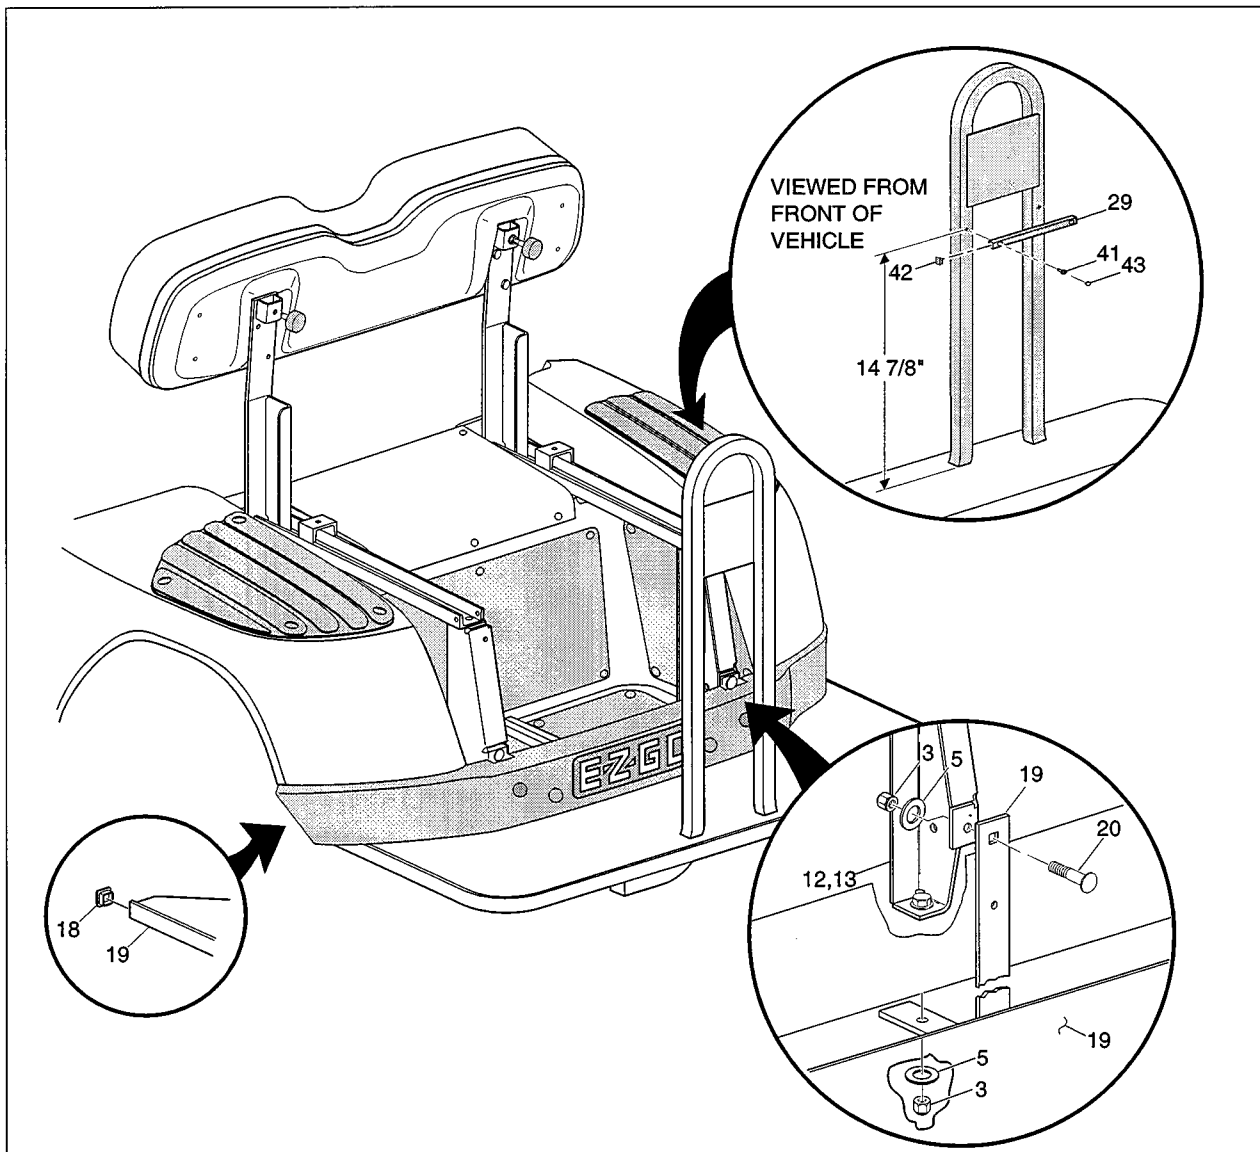

Fig. 5
1. Before attaching foot rest (item 19), mark hole centers as dimensioned and attach support tube (item 29) to foot rest with self drilling and tapping screws (item 41). Insert hole plugs (item 43) and end plugs (item 42) in support tube. (See Fig. 5)
2. Install the end plugs (item 18) into the tubing ends of the foot rest (item 19).
3. Remove the nut (item 3) and washer (item 5) (previously installed) from the underside of the frame. (See Fig. 5)
4. Place the foot rest (item 19) up against the bottom of bumper aligning the bolts that were previously installed in the bagwell with the holes in the horizontal part of the foot rest bracket. Be sure the vertical part of the foot rest bracket is inserted between the bumper and the vertical frame supports. See Detail in Fig. 5
7. Insert carriage bolt (item 20) through the hole in bracket and vertical support and secure with washer (item 5) and nut (item 3). (See Fig. 5)
8. Tighten the nut (item 3) on the underside of the frame to 21 - 25 ft. lbs. torque. (See Fig. 5)